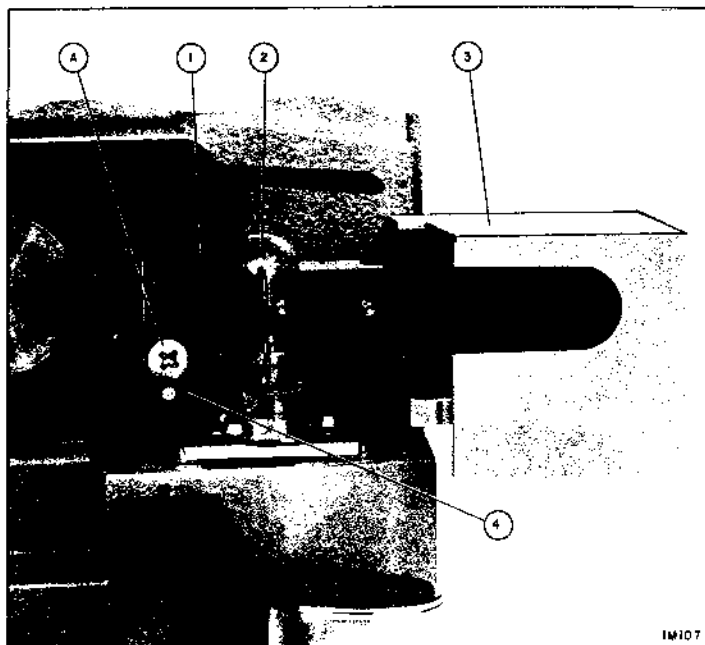
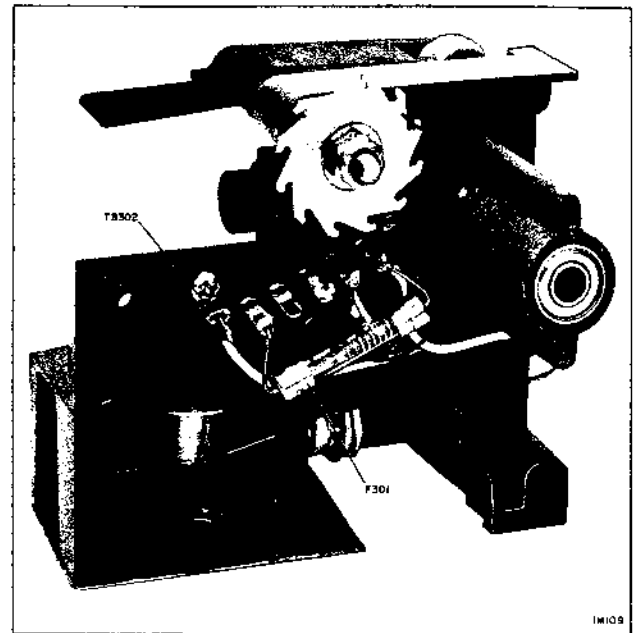

Figure 10
Figure 12
6. Connect leads to proper terminals on terminal strip TB 302 (figure 12).
7. To remove exciter lamp socket (6), open exciter lamp cover and remove from hinge pin.
8. Remove exciter lamp (2) (figure 10).